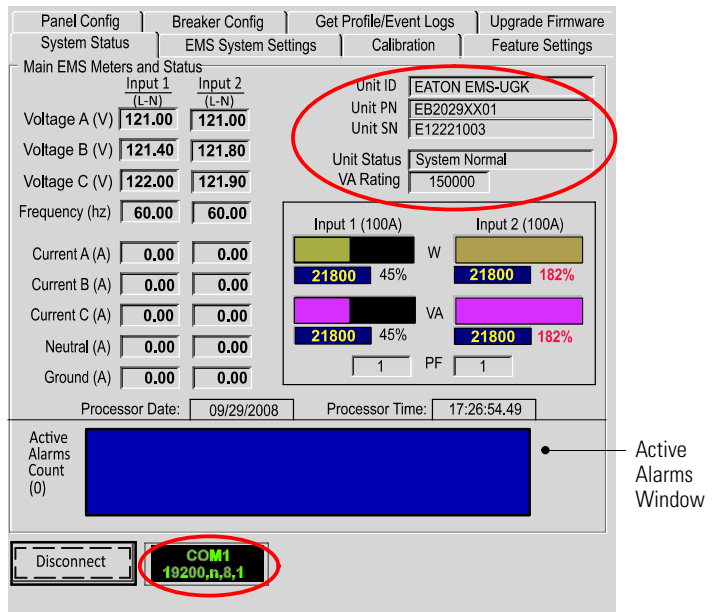

Figure 15. System Status Page (Connected)
- Verify that meter and status information from the EMS-UGK displays on the page, similar to the example shown in Figure 15.
If your system is dual input but only one input displays on the System Status page, click the **Feature Settings** tab and select the **Enable Dual Input Mode** check box. Return to the System Status page to verify that both inputs display (as shown in Figure 15), then continue to Step 6.